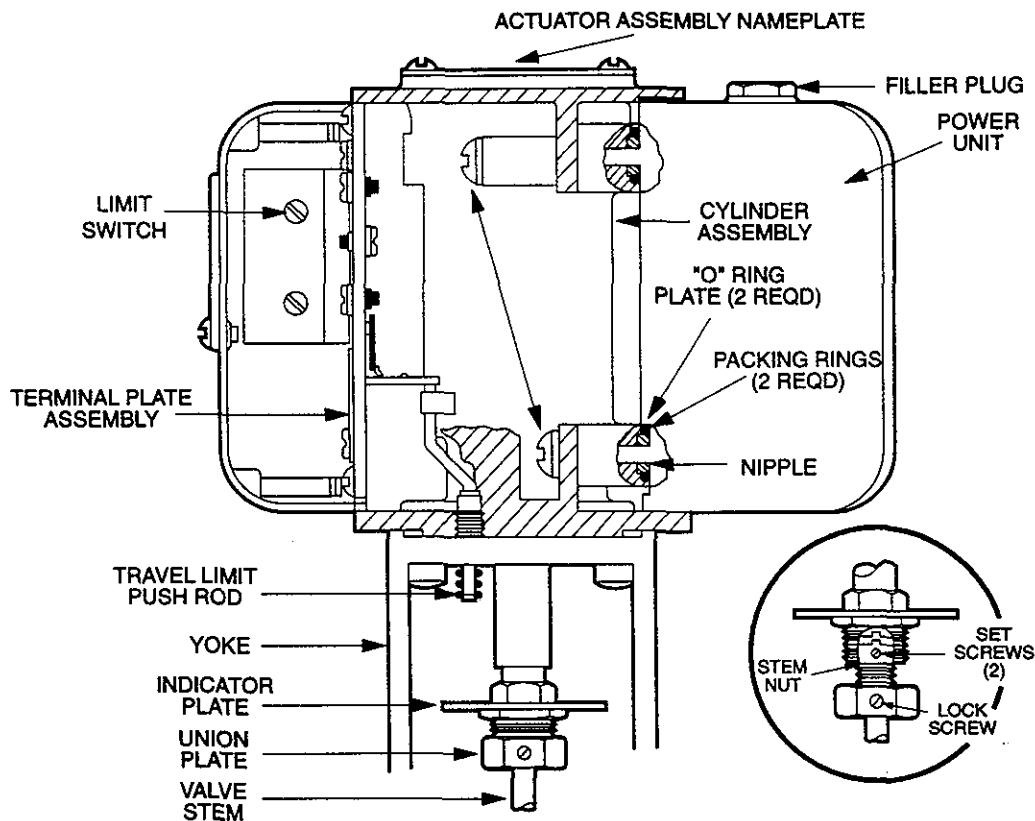

Figure 5. H10 Cross Section
1. Loosen lock screw, unscrew union nut to detach valve stem from actuator shaft (see Figures 5 and 6).
1. Unscrew filler plug from oil port at top of unit (Figures 5 and 8).